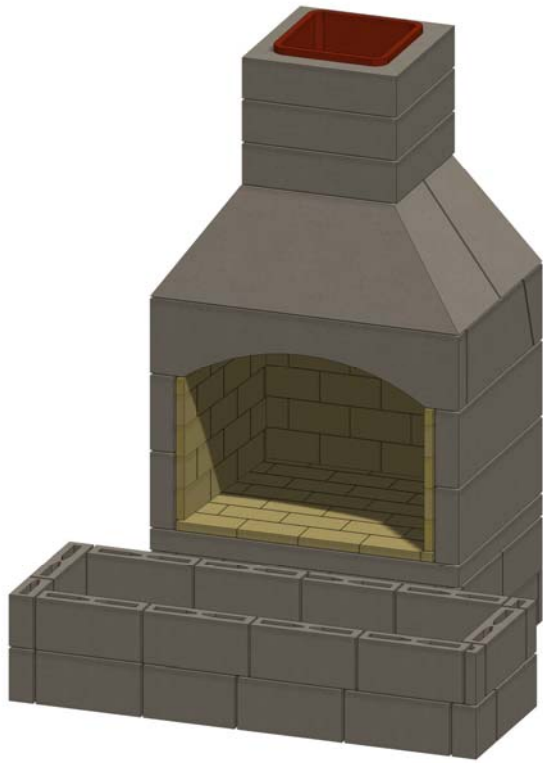

Figure 22. Hearth Base
O. If a hearth will be installed, and this was not done previously during Step A, mortar and set concrete blocks into place to create a base for the hearth. See Figure 22.